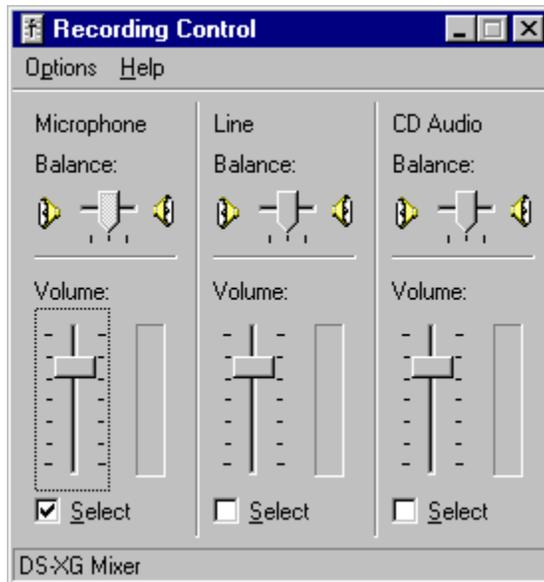

Figure 3-4. The Recording Control window.
- 2) Click on **Recording**. The Recording Control window will now appear as shown in Figure 3-4 below.